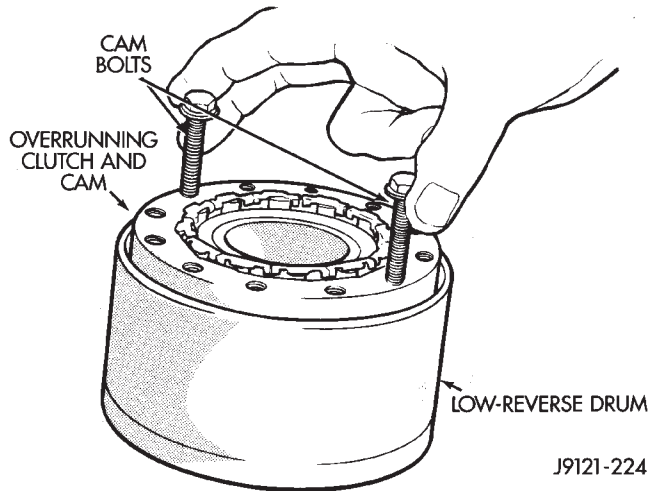

Fig. 114 Removing Overrunning Clutch From Low-Reverse Drum
- (1) If the clutch assembly came out with the low-reverse drum, thread two clutch cam bolts into the cam. Then lift the cam out of the drum with the bolts (Fig. 114). Rotate the cam back and forth to ease removal if necessary.
- (2) Remove the clutch roller and spring assembly from the overrunning clutch race.